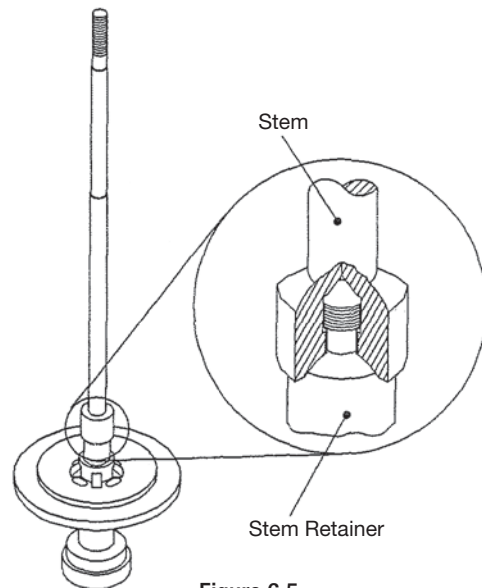

Figure 6.5
10. To remove the **Stem** [9] from the **Stem Retainer** [14], lift up on the **Stem** [9] while holding the **Stem Retainer** [14] down and rotate counter-clockwise at the same time. This will engage the thread. Continue rotating until the **Stem** [9] is removed. **(Figure 6.5)**